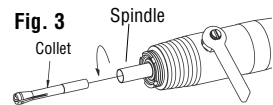

Fig. 3
4. For collet adjustment procedure, proceed to **Step 7**. To replace the collet, or to remove it for cleaning, unthread the collet completely by turning it counterclockwise – Fig. 3.